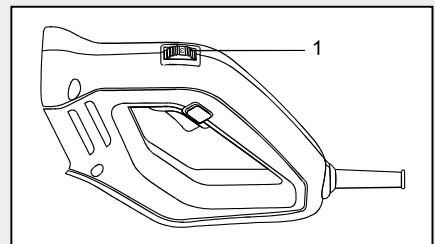

Fig. 4
The variable-speed control wheel (1) allows you to control the speed of the saw (Fig. 4).